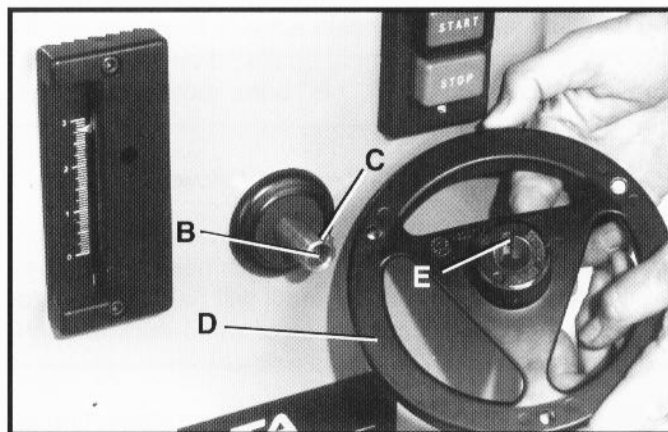

Fig. 5
2. Insert key (C) Fig. 5, into slot in spindle raising and lowering shaft (B).
3. Assemble handwheel (D) Fig. 5, onto spindle shaft (B), making certain the key (C), fits into the slot (E), in the handwheel. Insert the set screw which holds the handwheel to the shaft and tighten screw firmly against key.